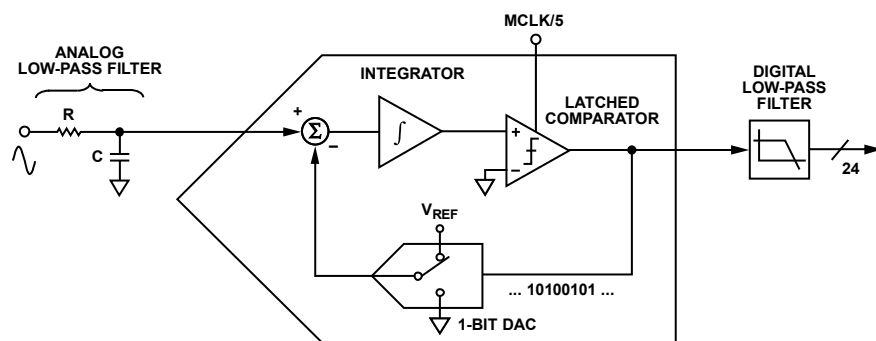
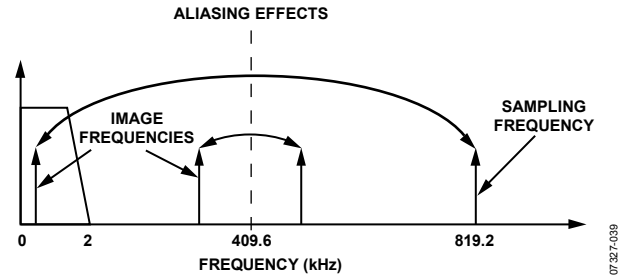

Figure 38. First-Order Σ - Δ ADC
Figure 39. ADC and Signal Processing in Current Channel Outline Dimensions
For simplicity, the block diagram in Figure 38 shows a first-order Σ - Δ ADC. The converter is made up of the Σ - Δ modulator and the digital low-pass filter.
Figure 38 also shows an analog low-pass filter (RC) on the input to the modulator. This filter is present to prevent aliasing, an artifact of all sampled systems. Aliasing means that frequency components in the input signal to the ADC, which are higher than half the sampling rate of the ADC, appear in the sampled signal at a frequency below half the sampling rate. Figure 39 illustrates the effect. Frequency components (the black arrows) above half the sampling frequency (also known as the Nyquist frequency, that is, 409.6 kHz) are imaged or folded back down below 409.6 kHz. This happens with all ADCs regardless of the architecture. In the example shown in Figure 39, only frequencies near the sampling frequency (819.2 kHz) move into the band of interest for metering (40 Hz to 2 kHz). This allows the use of a very simple low-pass filter (LPF) to attenuate high frequency (near 819.2 kHz) noise and prevents distortion in the band of interest.
For conventional current sensors, a simple RC filter (single-pole LPF) with a corner frequency of 10 kHz produces an attenuation of approximately 40 dB at 819.2 kHz (see Figure 39). The 20 dB per decade attenuation is usually sufficient to eliminate the effects of aliasing for conventional current sensors. However, for a di/dt sensor such as a Rogowski coil, the sensor has a 20 dB per decade gain. This neutralizes the -20 dB per decade attenuation produced by one simple LPF. Therefore, when using a di/dt sensor, care should be taken to offset the 20 dB per decade gain. One simple approach is to cascade two RC filters to produce the -40 dB per decade attenuation needed.